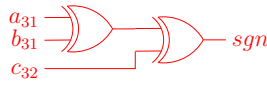

Figure 10: Schematic of the **sgn** flag
- The sign flag **sgn** is the same as the most significant bit of the 33 bits output we would have if we were sign-extending the two inputs from 32 to 33 bits ($a_{32} = a_{31}$ and $b_{32} = b_{31}$). This is thus $sgn = a_{32} \text{ XOR } b_{32} \text{ XOR } c_{32} = a_{31} \text{ XOR } b_{31} \text{ XOR } c_{32}$. The schematic is thus as shown on Figure 10.